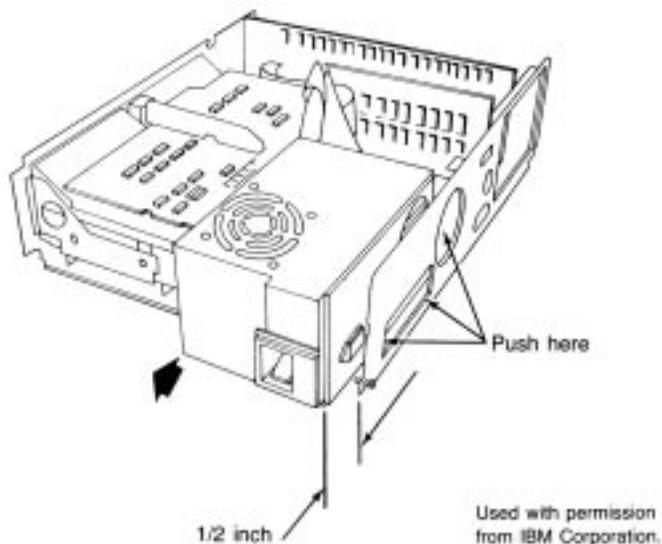

Fig. 3.10
3. Slide the power supply forward about a half-inch to disengage the interlocking tabs on the bottom of the unit. Lift the power supply out of the unit (see fig. 3.10).